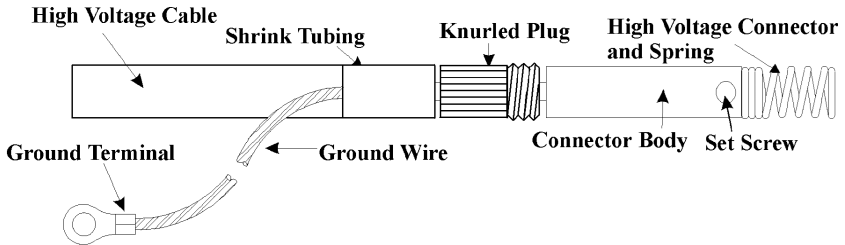
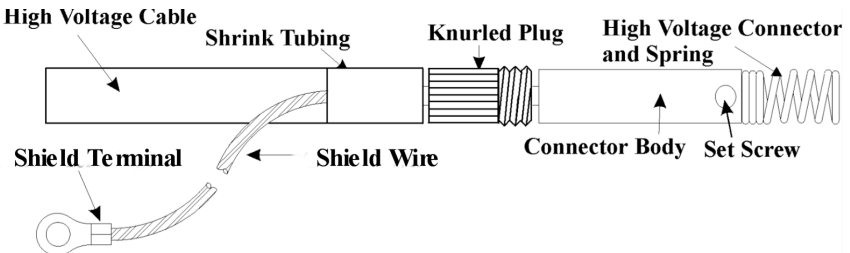

Figure 8. Cable Assembly and Connector Kit for "D" Power Supplies
Figure 9. Cable Assembly and Connector Kit TrueAC Power Supplies
1. Determine the location for mounting the neutralizing bar and power supply. Refer to **Figure 8** (see **Figure 9** for TrueAC cable connections) for correct cable assembly. Some cable assemblies have SLCC high voltage connector pre-installed.
The equipment you have ordered may be supplied with a spring-loaded connector installed. If so, keep these instructions for use when ordering a replacement connector. If the spring-loaded connector is not installed, follow the instructions below, using **Figure 8** as a guide.